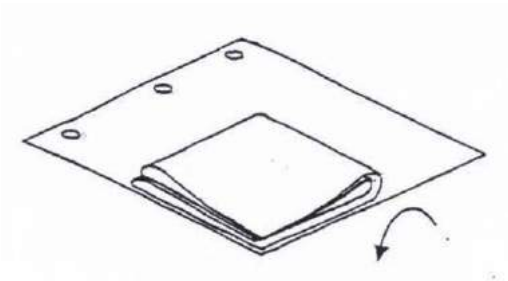

Fig. 4
- Now roll this half of the cloth together in a roll, as shown in Figures 4 and 5.